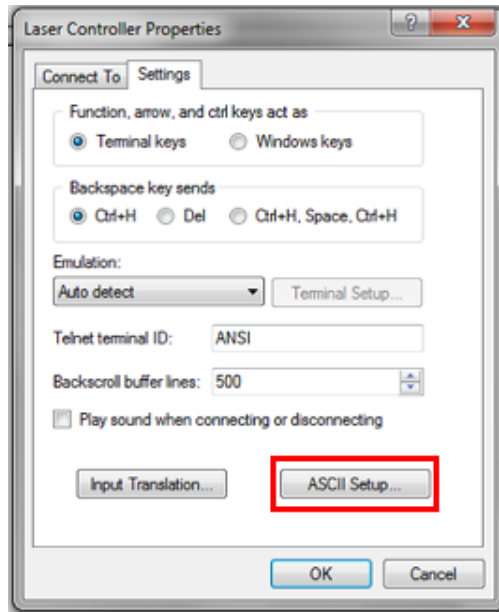

Figure 10: Controller Properties, Click "ASCII Setup"
6. To make the communication between the controller and computer easier to watch, it is recommended to send line ends with line feeds and echo typed characters locally. These two functions can be enabled in Window by going to the setting window in the HyperTerminal Session as shown in figures 10 and 11.